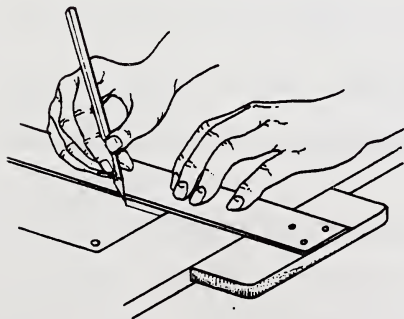

Fig. 2-2. Drawing a Horizontal Line
4. Hold the pencil so it is tipped in the direction that the hand moves and slightly outward as shown in Fig. 2-2. The point of the pencil must be against the blade as it touches the paper. Keep the pencil in the same position throughout to make sure that the line will be perfectly straight.